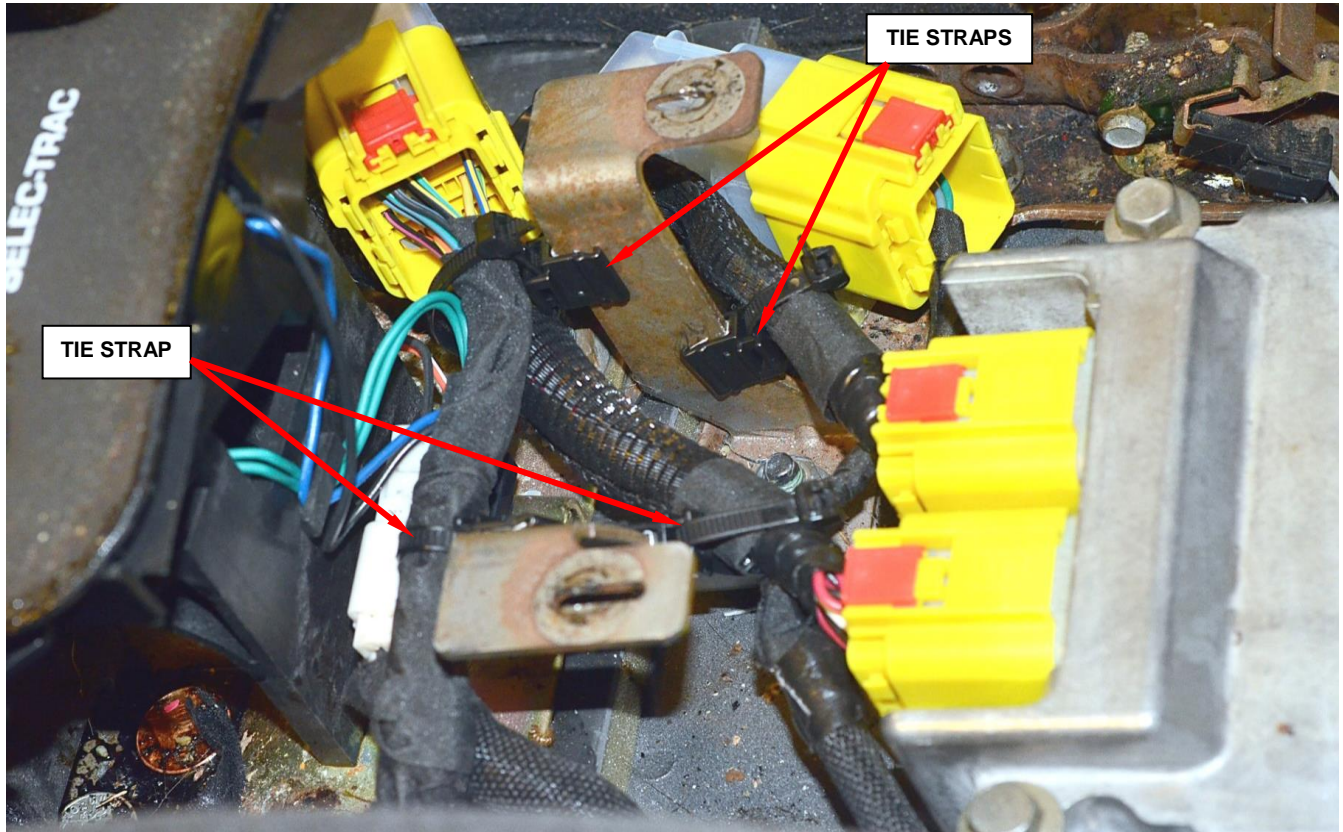

Figure 24 – Tie Strap Wire Harness
17. Install tie straps as shown in Figure 24.